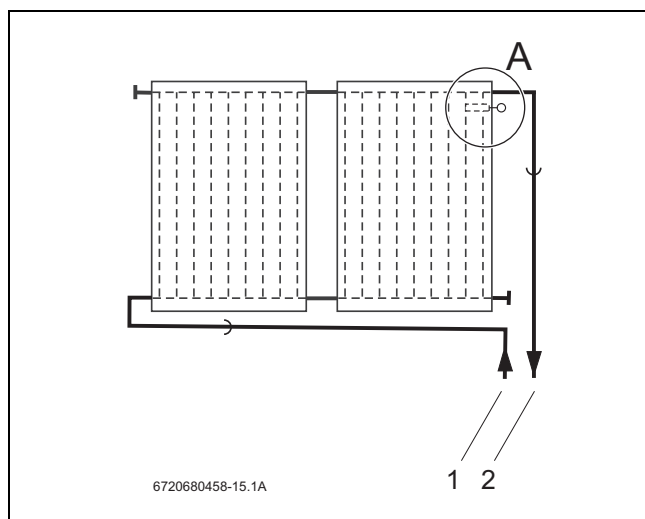

Fig. 45 Mounting location for the collector probe (schematic view)
The collector probe is next to the complete station, i.e. next to the regulation. Pay attention to the mounting location of single or double row collector systems (Fig. 45, [1]).
The collector probe must be mounted with flow pipework connected (Fig. 45, [2]).
- Mounting location (Fig. 45, [A]) for the side collector systems with flow pipework on the right.